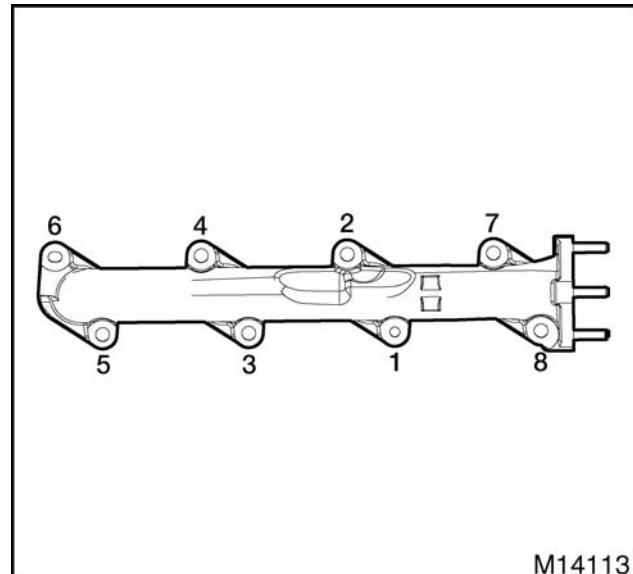

Figure 289 Torque sequence for left exhaust manifold mounting bolts
2. Install four new M8 x 40 exhaust manifold bolts and four new M8 x 40 exhaust manifold stud bolts. Tighten bolts and stud bolts to special torque (page 173) following sequence (Figure 289). Retighten bolts and stud bolts to special torque (page 173) using same sequence (Figure 289).